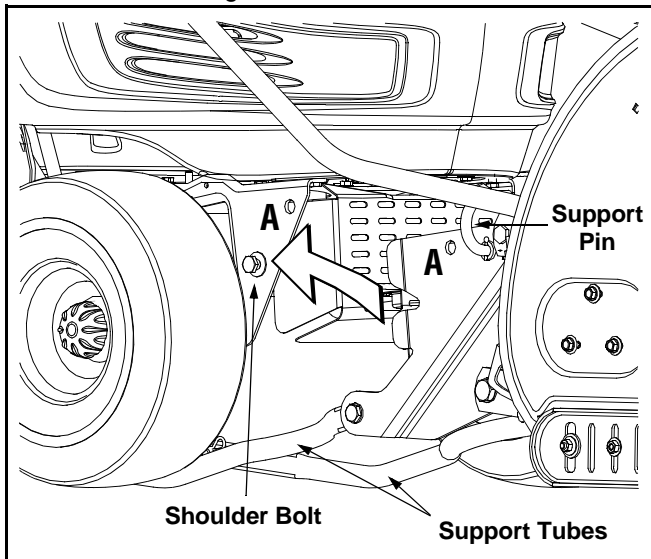

Figure 15
6. Simultaneously lift upward until the hooks found on the rear of the lift assembly are positioned over the shoulder bolts found on both the left and the right sides of the tractor's front pivot support brackets. See Figure 15.
7. Grasp the upper portion of the auger housing with both hands (where the decorative label is found) and pivot the assembly upward until the support pin holes align with the holes in the tractor's front pivot support bracket. Both of these holes are marked with an 'A' in Figure 15.